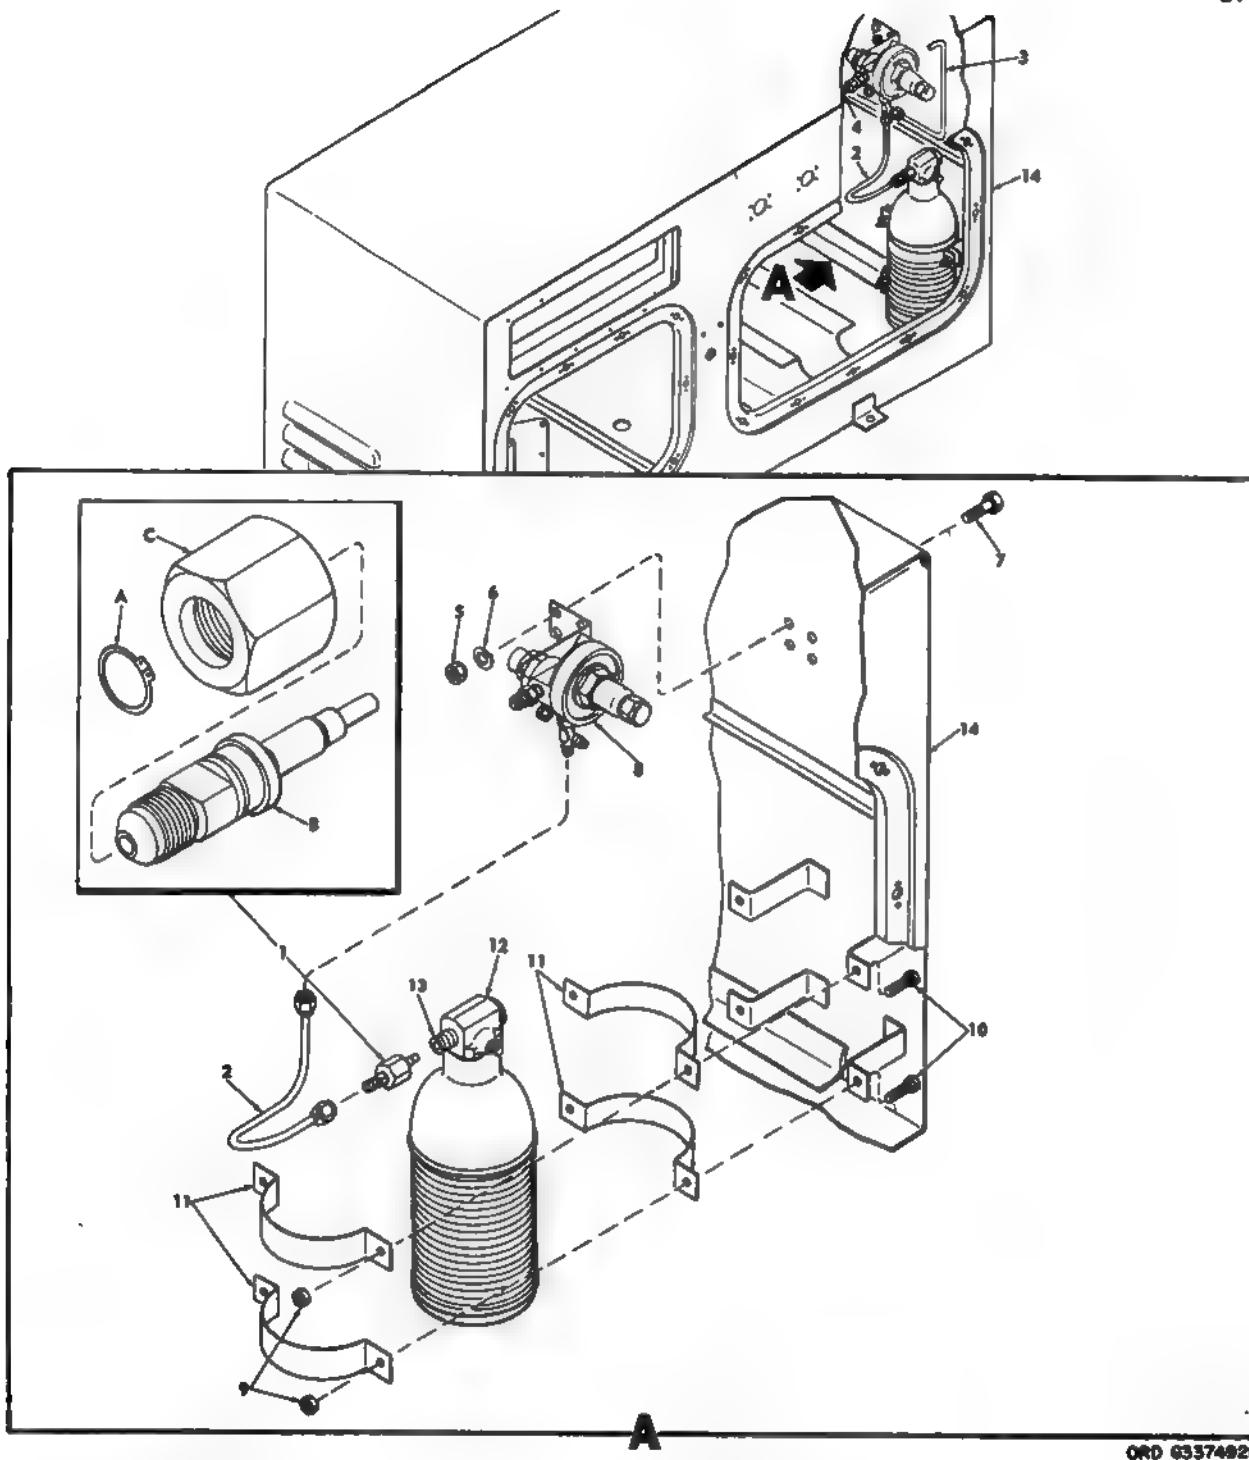

Figure 137. Regulator assembly and compressed gas cylinder assembly—removal and installation.
- (c) Disconnect the tube coupling nut assembly (1, fig. 137) from the compressed gas cylinder assembly (12).
- (d) Disconnect the three tube assemblies (2, 3 and 4) attached to the regulator assembly (8).
- (a) Secure the regulator assembly (8, fig. 137) to the hydraulic pumping unit assembly (14) with the hexagon-head screws, lockwashers and hexagon nuts (7, 6, and 5).
- (c) Connect the tube coupling nut assembly (1) to the compressed gas cylinder assembly (12); torque the coupling nut (1C) to 150 pound-inches.
*Note.* When the tube coupling nut assembly is tightened against the air outlet (13), gas will flow from the gas cylinder assembly to the regulator assembly.
*Subparagraphs (3)&(4). (Deleted)*
- (a) Check all connections for air leakage; if there are any leaks, remove the attaching tube assembly (2, 3 or 4, fig. 137) as outlined in *w* (1) below.
- (c) Replace all defective parts and install the tube assembly as outlined in *w* (2) below.
**Warning:** The compressed gas cylinder assembly (12, fig. 137) may still contain compressed gas. To prevent bodily injury to personnel by escaping gas, close the air outlet (13) of the cylinder assembly by performing step (d) below.
- (d) Leaving the tube assembly (2) attached to the tube coupling nut assembly (1), completely disconnect the tube coupling nut assembly from the air outlet.
- (f) Remove the cylinder assembly and the clamps (11).
- (b) Remove the check valve assembly (A) from the compressed gas cylinder (D).
- (a) Assemble the check valve assembly (A).
- (b) Install the preformed packing (B) and metal hose assembly (C) on the valve assembly.
- (c) Install the valve assembly on the compressed gas cylinder (D).
- (a) Install the clamps (11, fig. 137) and the compressed gas cylinder assembly (12).
- (b) Connect the tube assembly (2) to the tube coupling nut assembly (1); connect the coupling nut assembly to the gas cylinder assembly; torque the coupling nut assembly to 150 pound-inches.
the attaching tube assembly (2, fig. 137) as outlined in *w* (1) below.